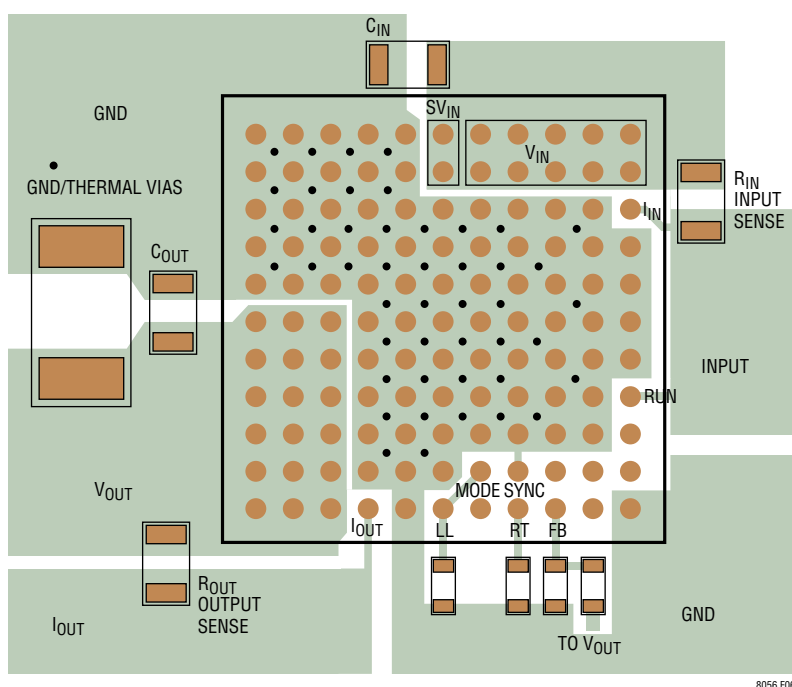

Figure 6. Layout Showing Suggested External Components, GND Plane and Thermal Vias
Most of the headaches associated with PCB layout have been alleviated or even eliminated by the high level of integration of the LTM8056. The LTM8056 is nevertheless a switching power supply, and care must be taken to minimize EMI and ensure proper operation. Even with the high level of integration, you may fail to achieve specified operation with a haphazard or poor layout. See Figure 6 for a suggested layout. Ensure that the grounding and heat sinking are acceptable.
8. Use vias to connect the GND copper area to the board's internal ground planes. Liberally distribute these GND vias to provide both a good ground connection and thermal path to the internal planes of the printed circuit board. Pay attention to the location and density of the thermal vias in Figure 6. The LTM8056 can benefit from the heat sinking afforded by vias that connect to internal GND planes at these locations, due to their proximity to internal power handling components. The optimum number of thermal vias depends upon the printed circuit board design. For example, a board might use very small via holes. It should employ more thermal vias than a board that uses larger holes.